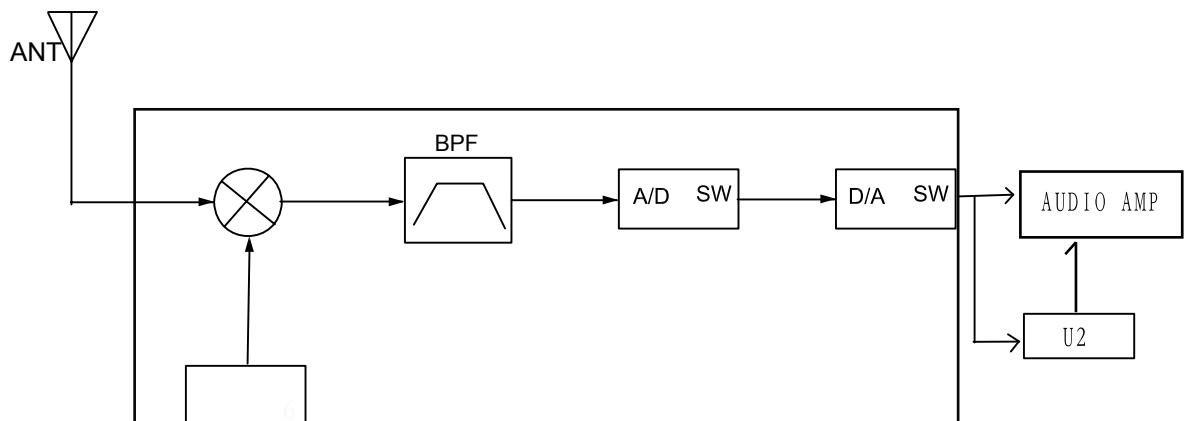

Fig .2
(Completed in RDA1846S) IC in RDA1846S can program to control frequency synthesizer to generate local oscillation and receiving signal, and then mix frequency in image frequency interference suppression mixers to generate IF (intermediate frequency). (See fig.2)
2. DIGITAL channel: signal is sent to band-pass processor (U2) from RDA1846S to be decoded and decompressed to convert to digital signal, and then is sent to the AF amplifier. (See fig.2).